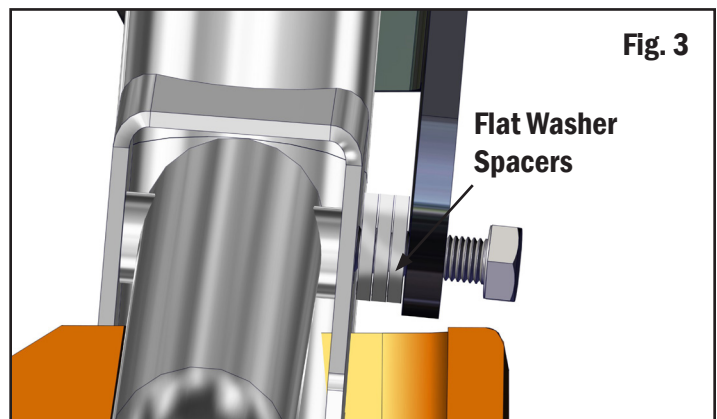

Fig. 3
-(3) Alum. Flat Washers (Fig. 3)